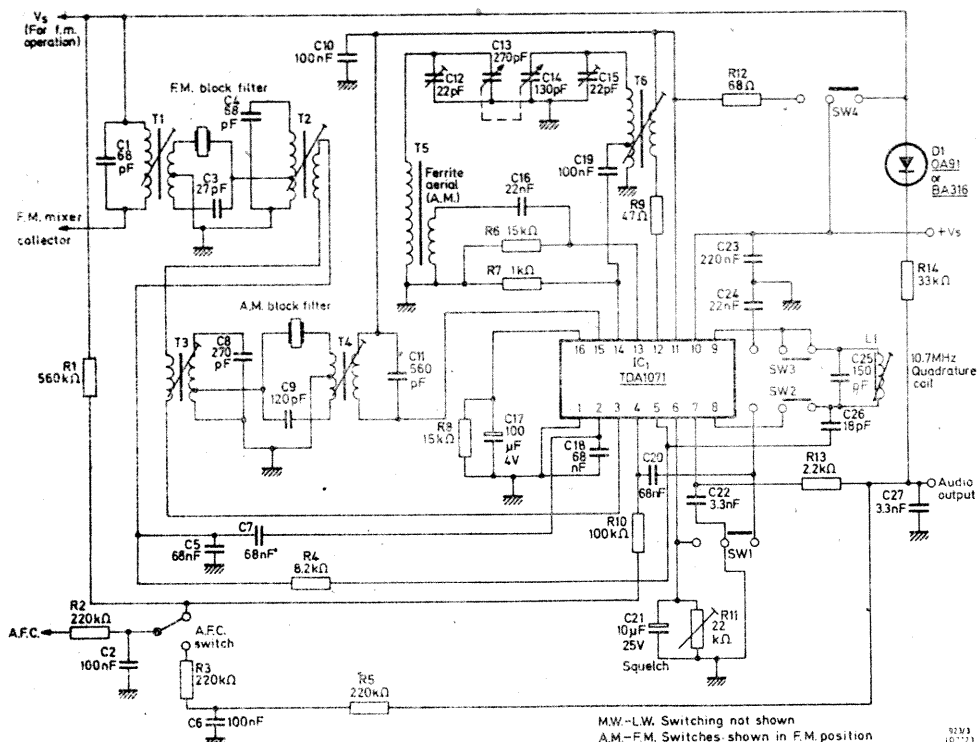
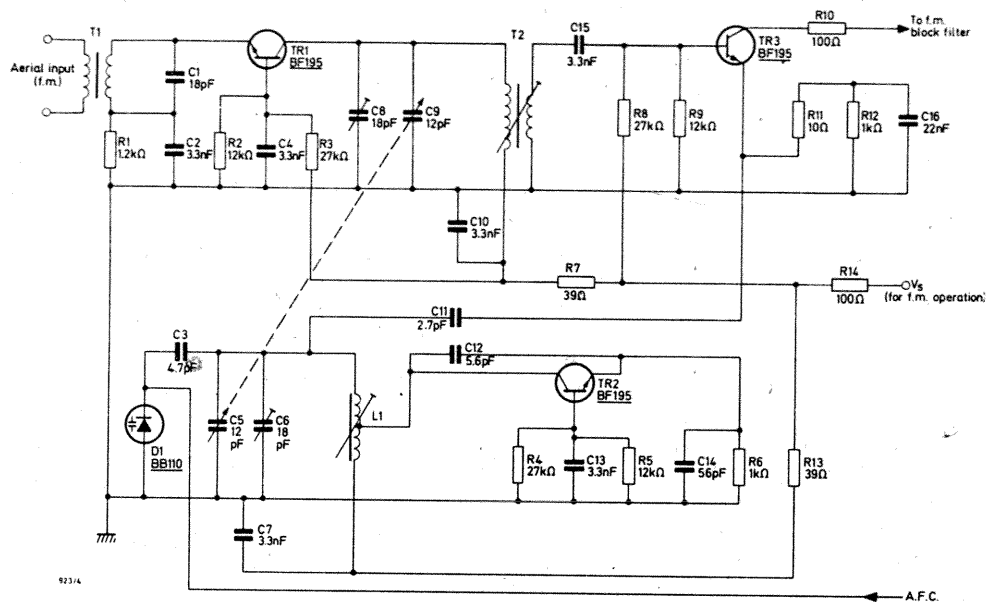

Fig.3 — Circuit diagram of a.m./f.m. receiver using the TDA1071
Fig.4 — Front-end for f.m. operation of the receiver
The TDA1071 is particularly suitable for use in a high-quality portable a.m./f.m. receiver, providing high performance over a wide range of supply voltages and very simple a.m.-to-f.m. switching. The low peripheral component count of the IC is a further advantage, reducing the necessary size of the receiver. The operation, construction, and performance of a laboratory prototype a.m./f.m. receiver using the TDA1071 are described in the following sections. A circuit diagram of the receiver is shown in Fig.3, including both a.m. and f.m. functions.
The r.f. signal from the ferrite rod aerial (T_5 in Fig.3) is coupled to the base of the mixer (pin 13) via a coupling winding chosen to give an aerial coil working Q-value of about half its unloaded Q-factor. The emitter of the mixer (pin 14) is supplied with an oscillator drive voltage of about 30mV r.m.s. by an oscillator coil injection tap from T_6 , and the mixer output at pin 15 is coupled to the input of the differential amplifier (pin 3) via a 470kHz block filter. This filter presents an impedance of about 30k Ω to the mixer, and provides a source impedance of about 100 Ω for the integrated differential amplifier.
For f.m. operation the a.m. mixer and oscillator are switched off (by SW_4) and the f.m. front-end shown in Fig.4 is used. The front-end can have a current consumption of up to 3mA without exceeding the current consumption for a.m. operation.
The f.m. i.f. selectivity is provided by a block filter (shown in Fig.3) which couples the f.m. mixer in the front-end to the inputs of the differential amplifier/limiter section of the IC (pins 2 and 3). The coupling coils (T_2 and T_3) from the a.m. and f.m. block filters are connected in series at the input of the differential amplifier, obviating the need for any a.m.-to-f.m. switching of the i.f. selectivity.
Components with the subscript F comprise the f.m. front-end (Fig.4). The 300pF capacitor next to the m.w./l.w. switch is not shown in Fig.3.
to derive the a.f.c. reference voltage. This connection is included in Fig.3. This stabilised voltage could also be used to provide base bias for the f.m. front-end, which would ensure consistent front-end performance over a range of supply voltages.
A.M./F.M. receiver circuit (Fig.3)